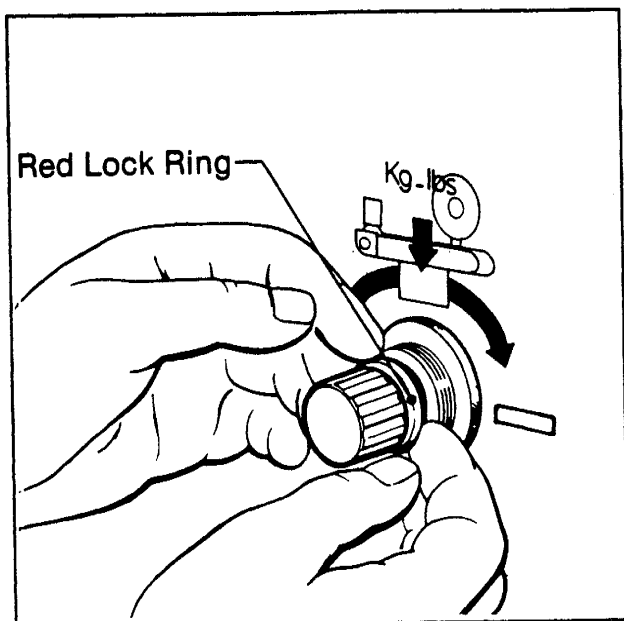

Figure 7 - Top Head Pneumatic Regulator Locking Ring
**Note:** All air pressure regulators discussed below have a red lock ring behind the adjustment knob, as shown in Figure 7. The red lock ring should be pulled toward the knob to unlock the knob for air pressure adjustment, pushed back against the regulator body to lock the knob after adjustment if desired.
##### "Down" Movement Air Pressure Regulator (Refer to Figure 7)